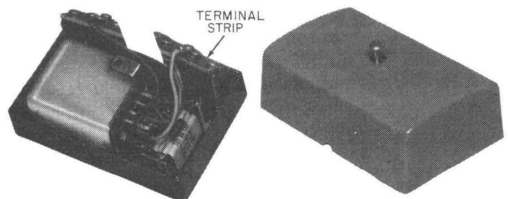

Fig. 4—KS-19645, List 11 Network
- Network, KS-19645, List 11 (used to reduce line and background noise, Fig. 4).
**KS-19645, List 11 Network (Fig. 4)**
- (7) If the KS-19645, List 11 network (Fig. 4) is required, place it on a desk or fasten it to the wall. Wire the terminal strip as described in Part 6. Inside wire or cord may enter from the top or bottom.